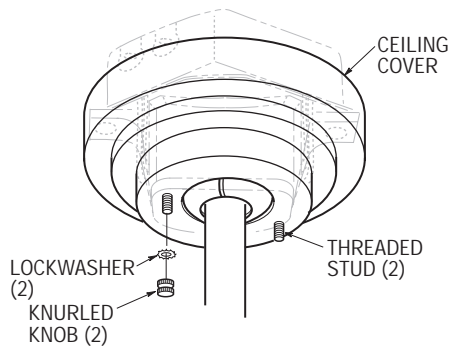

Figure 15
- ☐ 5. Lift the ceiling cover up to the threaded studs and turn until the studs protrude through the holes in the ceiling cover (Figure 15).
- ☐ 6. Secure the ceiling cover in place by sliding lockwashers (supplied) over the threaded studs and installing the two knurled knobs (supplied). (Figure 15). Tighten the knurled knobs securely until the ceiling cover fits snugly against the ceiling.